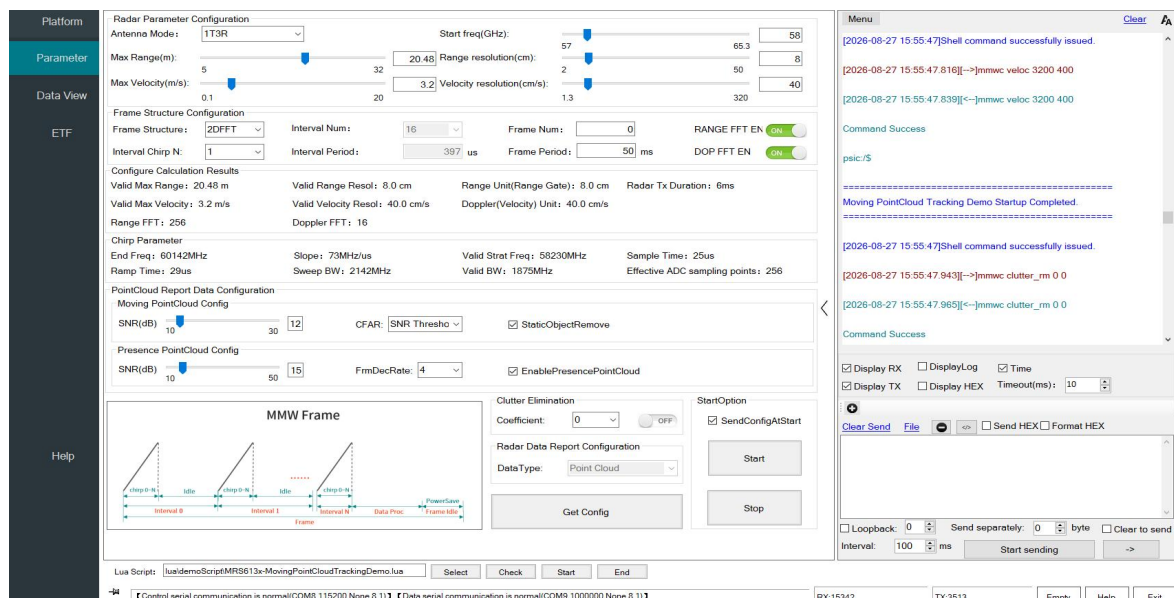

Figure 2-18 Motion Point Cloud/Tracking Default Configuration Page
3. This display uses a fixed one-click radar configuration that cannot be modified. The configuration is shown in Figure 2-18.